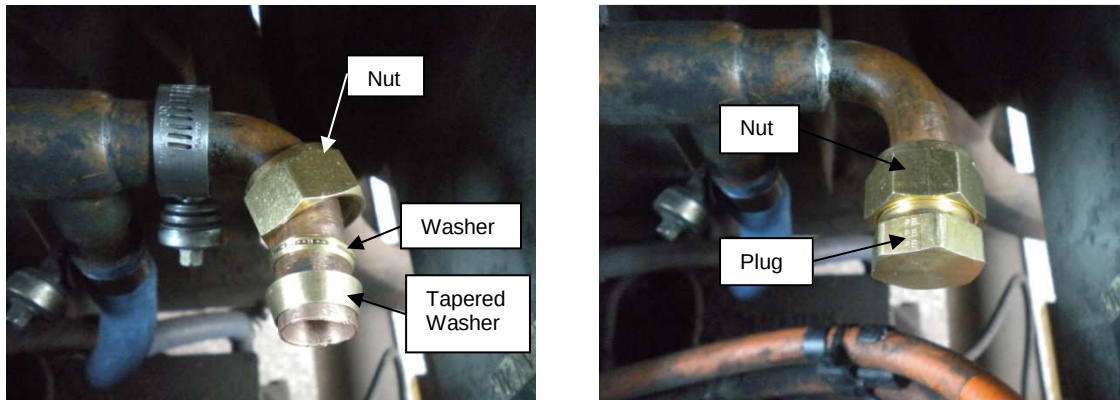

Figure 4: Bypass Tube Plug Installation.
- c. Install the nut, washer and tapered washer from the cap NF P/N 6431573 over the tube. Fig 4, Picture #1.
- d. Push the plug into the end of the tube and install the nut on the plug finger tight then turn an additional 1/4 turn. Fig 4, Picture #2.